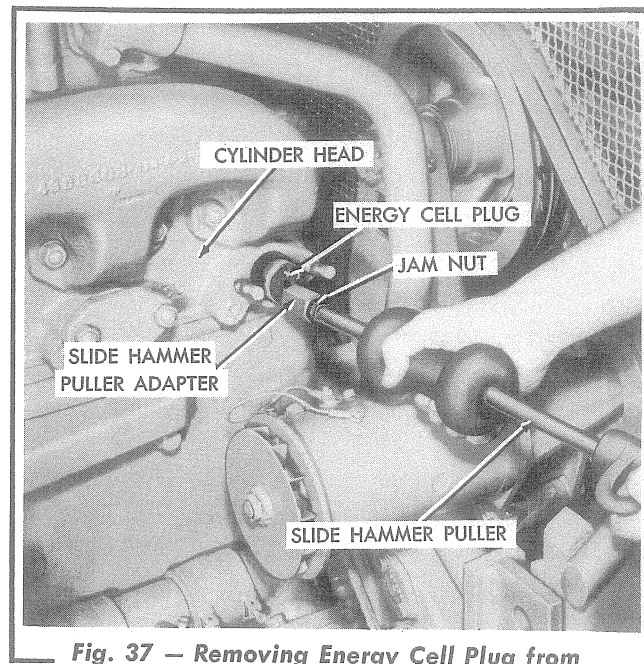

Fig. 37 — Removing Energy Cell Plug from No. 1 Cylinder (Tractors Prior to Serial No. 4001)
- b. Using tools similar to the ones shown in Fig. 37, pull the energy cell plug from the energy cell.